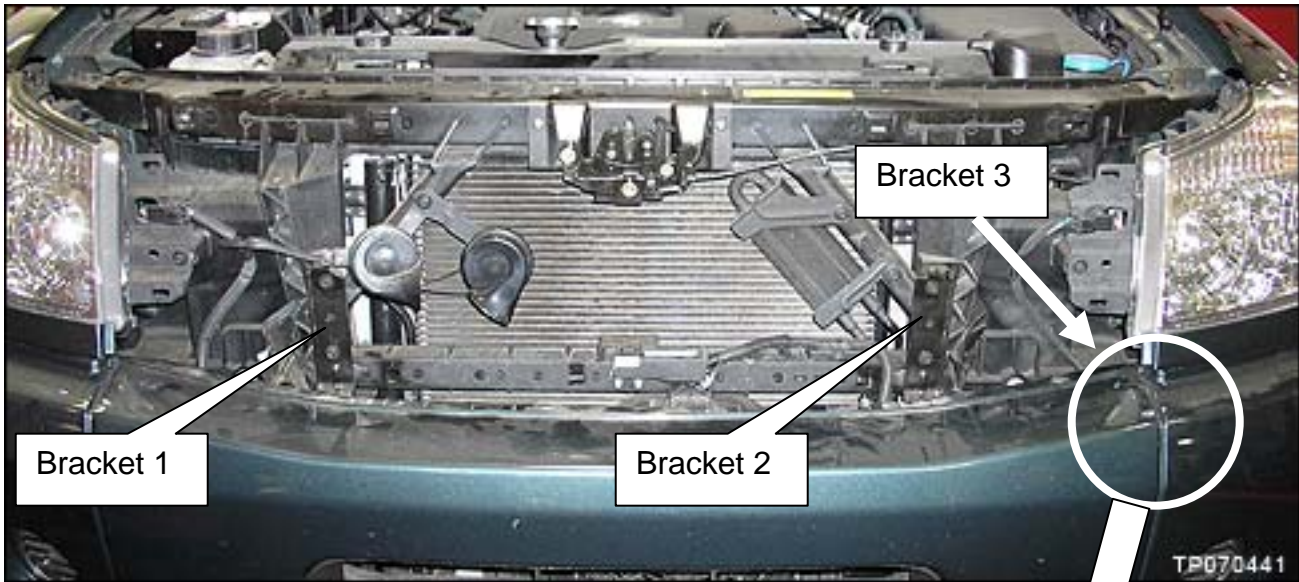

Figure C-23
- c. Install and Torque 2 bolts at each of the 3 bumper brackets as shown (see Figures C-23 and C-24).